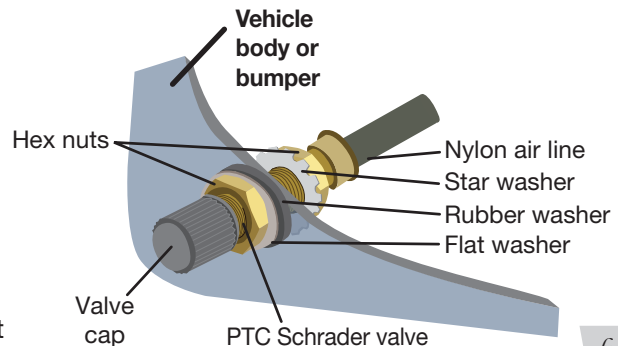

fig. E.2
4. Place a 5/16" nut and star washer on the air valve. Leave enough of the inflation valve in front of the nut to extend through the hole and have room for the rubber washer, flat washer, and 5/16" nut and cap. There should be enough valve exposed after installation – approximately 1/2" – to easily apply a pressure gauge or an air chuck (Fig. E.2).